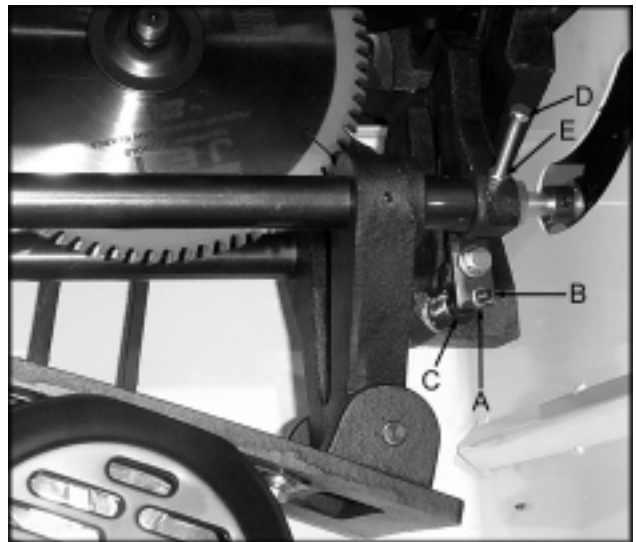

Fig. 13
5. If blade is not at 90°, loosen nut (A, Fig. 13) and turn adjusting stop screw (B, Fig. 13) in, or out. The adjusting stop screw should stop against the end of the tilting screw (C, Fig. 13) when the blade is 90° to the table. Tighten lock nut.
6. Place a square on the table after turning the blade to the 45° stop. If the 45° stop is not set properly, loosen nut (E, Fig. 13) and adjust screw (D, Fig. 13) until the stop touches the table and the blade is in the 45° position. Tighten the nut